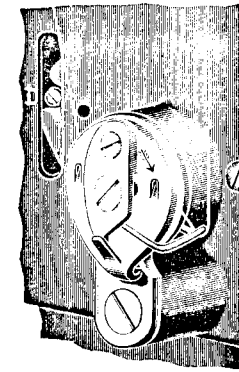

Fig. 13
To change the stop for more controller action on the thread, loosen screw (D, see Fig. 13) which projects through the slot in the face plate, and set it lower, and for less action set it higher.
To vary the tension of the controller spring, remove the face plate and loosen the small set screw at the right of the controller (see Fig. 13) which sets the thread controller stud, then from the inside turn the stud forward or backward as required by using a screw driver in the slot of the screw which holds the thread controller stop and retighten the set screw. In any case when an unusually light tension is used, the tension on the controller spring should be correspondingly light. The coils of the controller spring should be oiled occasionally.
**To place a new thread controller in position.** Remove the entire thread controller by taking out the largest screw (see Fig. 13) and release the spring by removing the middle screw. (Be careful not to lose the small roller.) Place the new spring, the roller and screw in their positions. Next put the entire thread controller on the face plate, taking care to slide the little tail, on the coil of the spring, into the notch in the stud over which the coil slides.